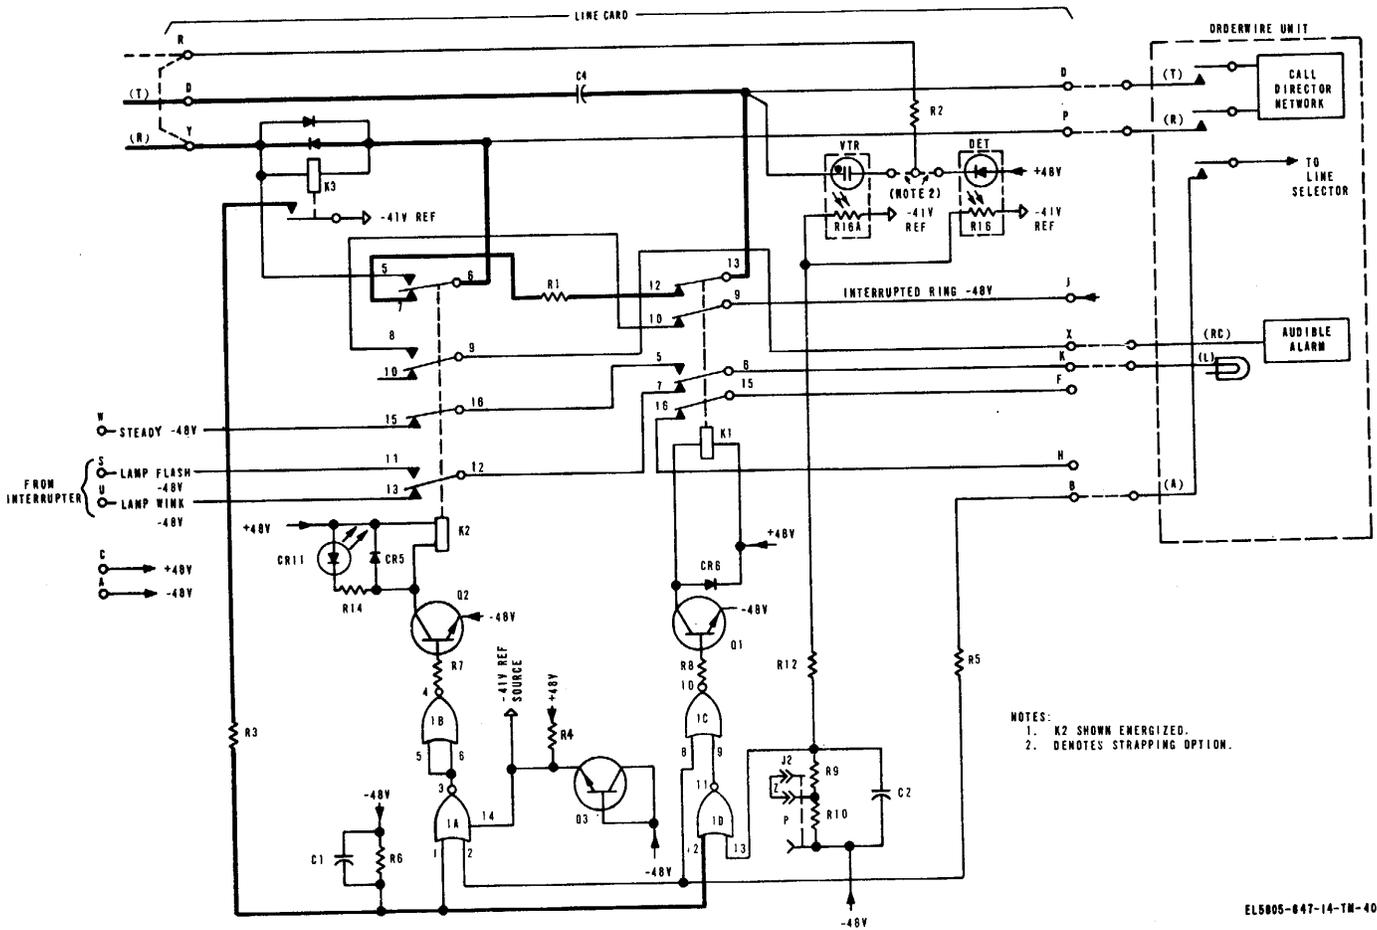

Figure 4-10. Call on hold functional diagram.
(5) *Holding circuit* (fig. 4-10).